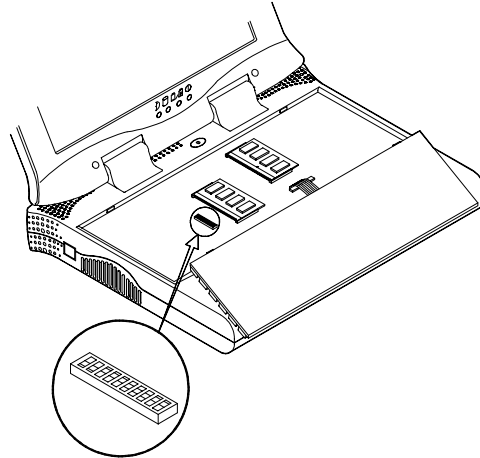

Figure 2-3
3. Carefully lift the keyboard assembly out so that the mainboard is exposed. Employ the 10-pole DIP Switch to set the configuration (Figure 2-3).